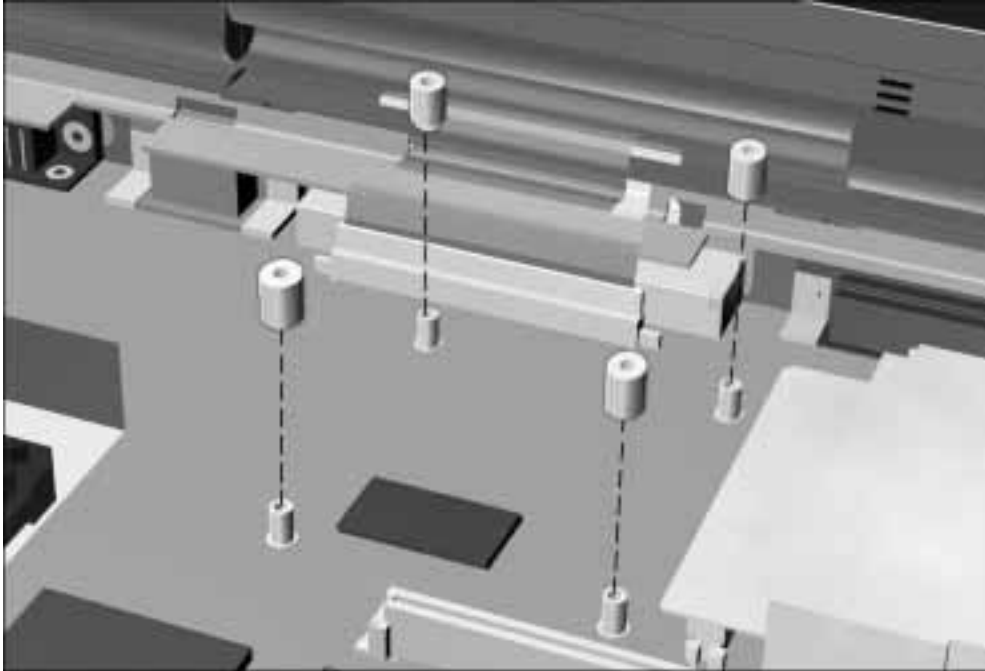

Figure 5-32. *Removing the Processor Board Spacers*
4. Remove the four spacers from the mounting posts on the processor mounting bracket (Figure 5-32).